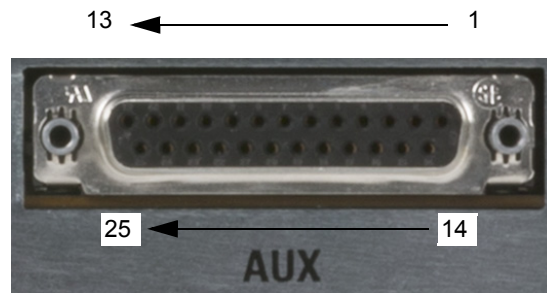

Figure 10-7 Auxiliary Connector
3. Apply a 1 kHz signal at the desired input level to pin #1 or #22 (in reference to ground) on the Aux connector. Ground connections provided by the Aux connector are pins: 9, 16, 17, 18, and 19. See Figure 10-7.